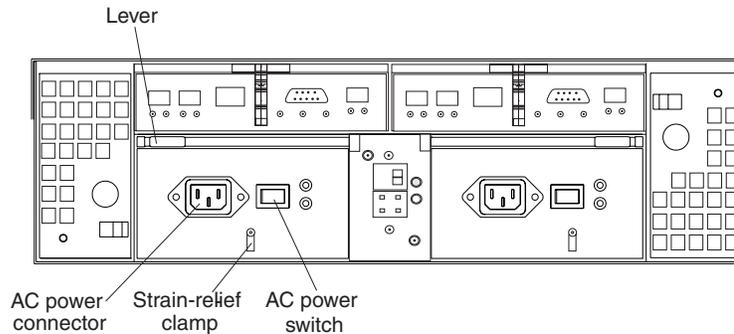

Figure 58. Connecting the power cord to the AC power connector
5. Connect the power cord to the AC power connector. See Figure 58 on page 73.